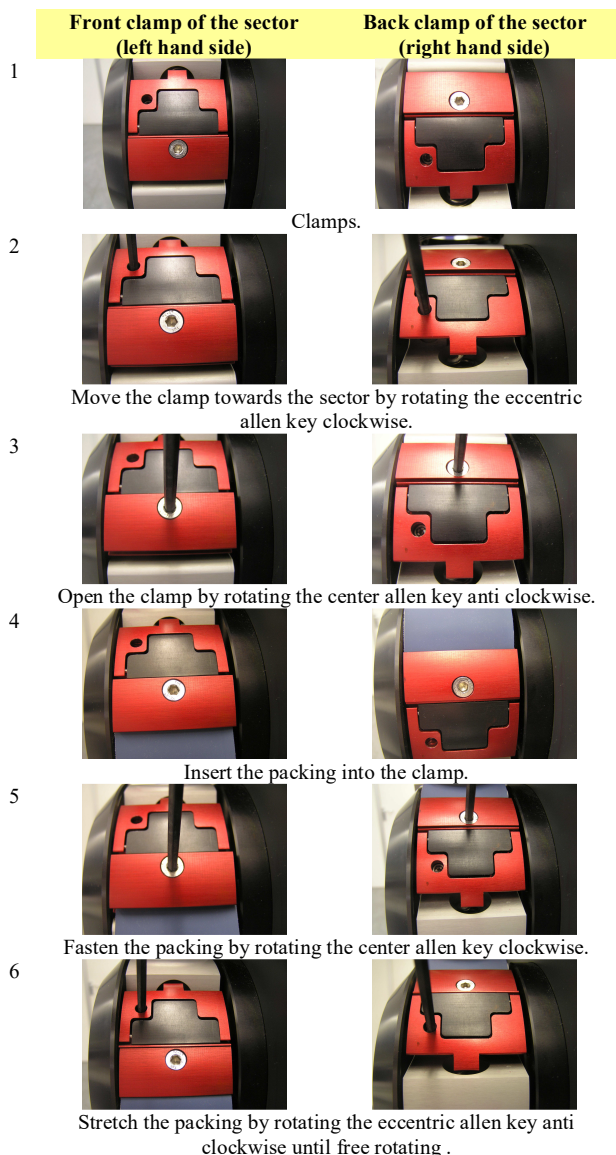

Fig. 1: Sector clamps
4. Check the right position of the doctor blade: the bevel has to point to the right (see figure 1) and the place where the ink is applied to the system is NOT at the side of the bevel.